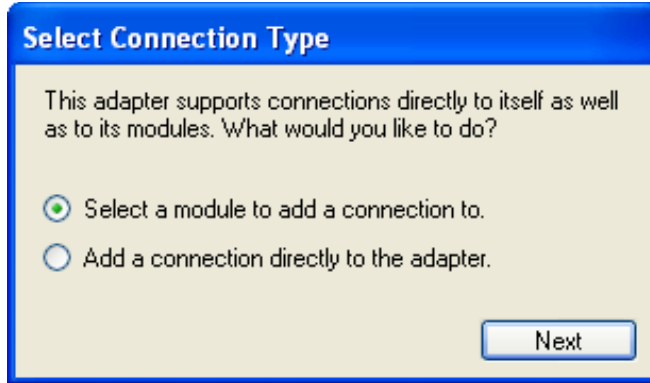
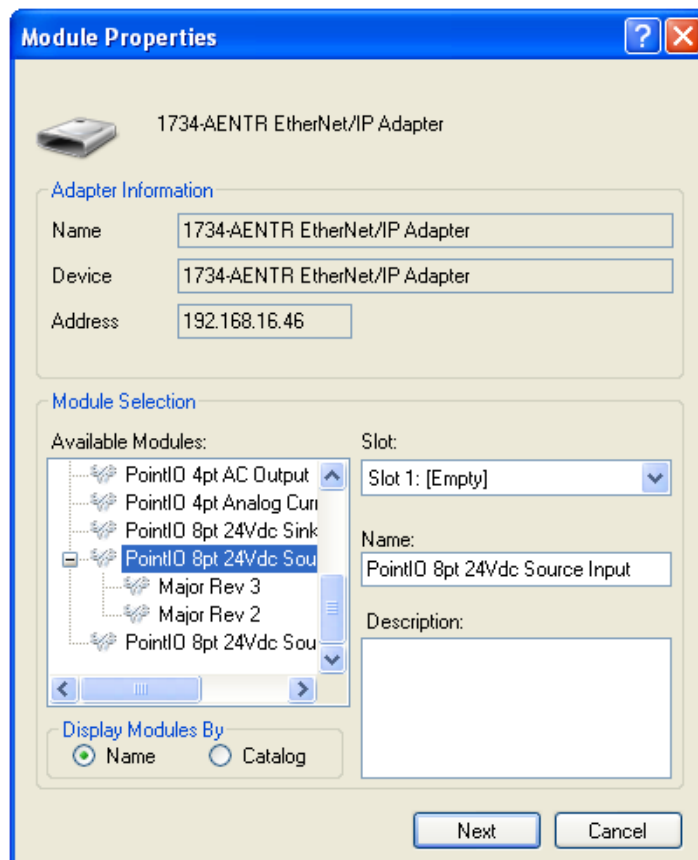
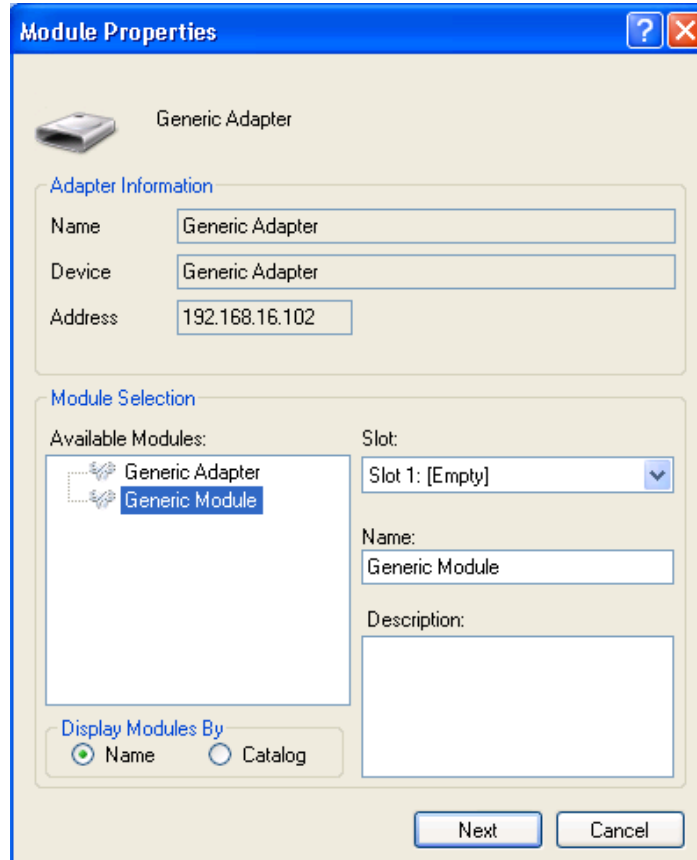

Figure 50: Select Connection Type
Figure 51: Module Properties
Figure 56: Generic Adapter Module Properties
5. Add the POINT IO (1734-AENTR EtherNet/IP Adapter) to the scanner. Enter an IP address and click next. If the adapter supports direct connections to itself, select the appropriate type of connection to be created (see Figure 50). Connections to the adapter can always be created at a later time. If the adapter does not support direct connections to itself or the user selects to add a connection to a module, the Module Properties box will be displayed (see Figure 51). All available modules for the POINT IO adapter will be listed.
3. If the adapter supports direct connections to itself, select the appropriate type of connection to be created (see Figure 50). Connections to the adapter can always be created at a later time. If the adapter does not support direct connections to itself or the user selects to add a connection to a module, the Module Properties box will be displayed (see Figure 56). Select the Generic Module and a slot number and click next.
| Where is the catalog number? | When adding a module to an adapter, modules can be displayed by name or catalog (refer to Figure 51). After a device has been added to the Device List panel, the catalog identification can be found by right-clicking on the device and selecting Properties. Please note that a device is not required to specify the Catalog identification. |